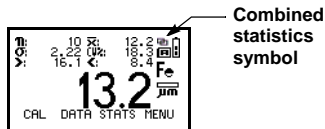

Figure 41. Reading screen with all statistics
j. When readings are combined a  symbol will be displayed on the Reading Screen (Figure 41).